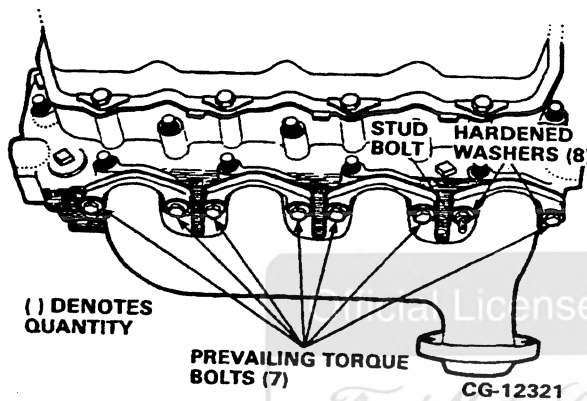

Figure 2.7. Removal - Right Exhaust Manifold
3. Right Exhaust Manifold - Remove the seven prevailing torque bolts, one prevailing torque stud bolt and eight hardened washers. Refer to Figure 2.7.